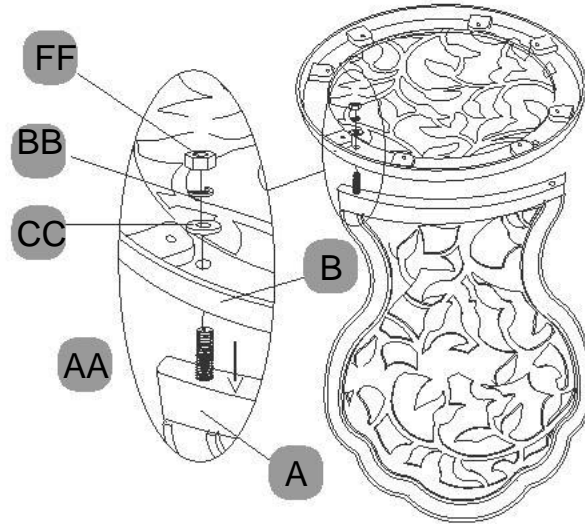

Fig. 1
Insert threaded rod (AA) into each hole in bottom of back (A), then connect seat (B) to back (A) with flat washers (CC), spring washers (BB) and nuts (FF), as shown in Fig. 1. Do not tighten at this step.